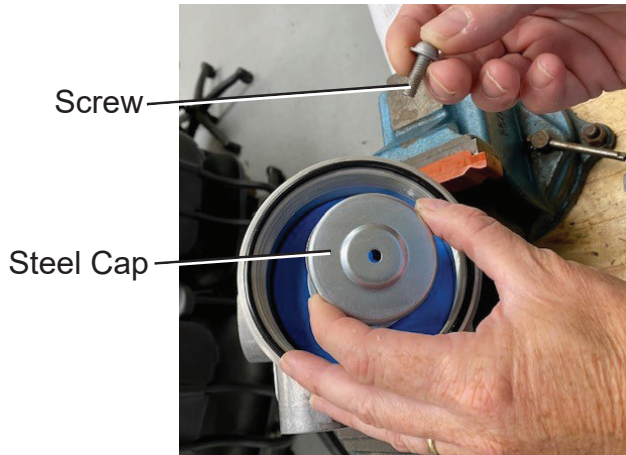

Figure 7 - Steel Cap Installation
10. Install the provided steel cap on top of the spring and secure to filter assembly with provided screw, see Figure 7.